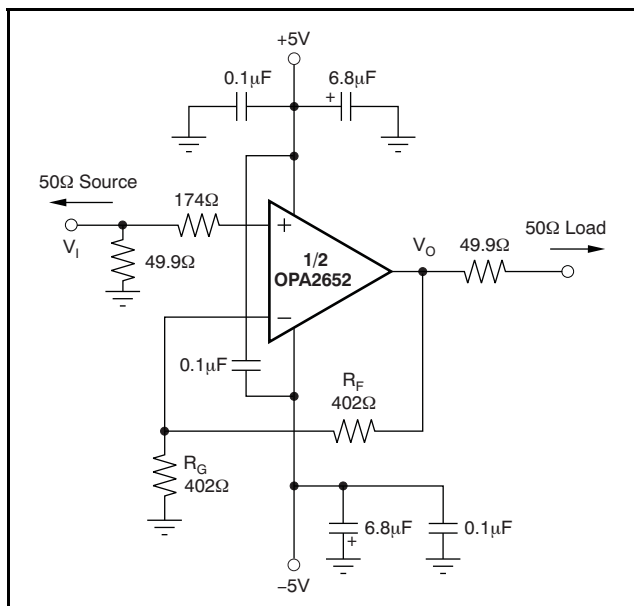
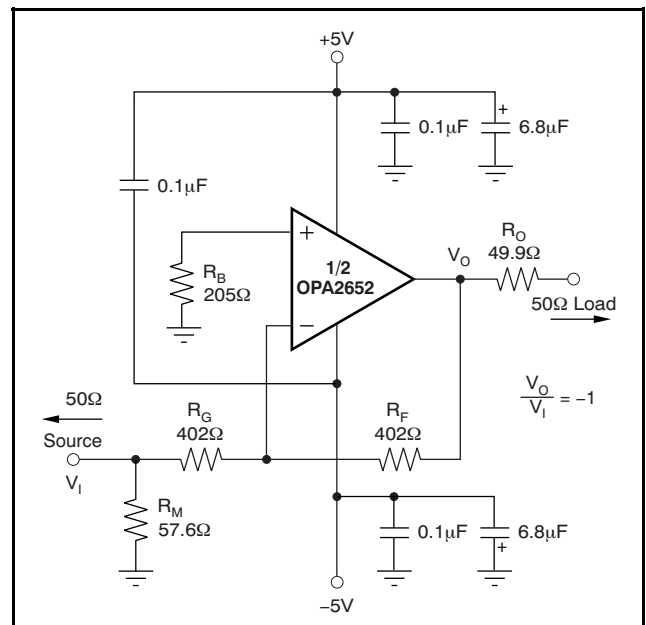

Figure 28. DC-Coupled, $G = +2$, Bipolar Supply, Specification and Test Circuit
Figure 29. DC-Coupled, $G = -1$, Bipolar Supply, Specification and Test Circuit
At $T_A = +25^\circ C$, $G = +2$, $R_F = 402\Omega$, and $R_L = 100\Omega$, unless otherwise noted. See Figure 28 and Figure 29 for AC performance only.
At $T_A = +25^\circ C$, $G = +2$, $R_F = 402\Omega$, and $R_L = 100\Omega$, unless otherwise noted. See Figure 28 and Figure 29.
At $T_A = +25^\circ\text{C}$, $G = +2$, $R_F = 402\Omega$, and $R_L = 100\Omega$, unless otherwise noted. See Figure 28 and Figure 29.
Figure 28 shows the DC-coupled, gain of +2, dual power-supply circuit configuration used as the basis of the $\pm 5\text{V}$ specifications and typical characteristics. This configuration is for one channel. The other channel is connected similarly. For test purposes, the input impedance is set to 50Ω with a resistor to ground and the output impedance is set to 50Ω with a series output resistor.
Voltage swings reported in the specifications are taken directly at the input and output pins, while output powers (dBm) are at the matched 50Ω load. For the circuit of Figure 28, the total effective load will be $100\Omega \parallel 804\Omega$. Two optional components are included in Figure 28.
Figure 29 shows the DC-coupled, gain of -1 , bipolar supply circuit configuration that is the basis of the specifications and typical characteristics at $G = -1$. The input impedance matching resistor (57.6Ω) used for testing gives a 50Ω input load. A resistor (205Ω) connects the noninverting input to ground. This configuration provides the DC source resistance matching to cancel outputs errors arising from input bias current.
A good rule of thumb is to target the parallel combination of R_F and R_G (see Figure 28) to be less than approximately 300Ω. The combined impedance $R_F \parallel R_G$ interacts with the inverting input capacitance, placing an additional pole in the feedback network, and thus a zero in the forward response. Assuming a 2pF total parasitic on the inverting node, holding $R_F \parallel R_G < 300\Omega$ keeps this pole above 250MHz. By itself, this constraint implies that the feedback resistor R_F can increase to several kΩ at high gains. This increase is acceptable as long as the pole formed by R_F and any parasitic capacitance appearing in parallel is kept out of the frequency range of interest.
Voltage feedback op amps exhibit decreasing closed-loop bandwidth as the signal gain is increased. In theory, this relationship is described by the Gain Bandwidth Product (GBP) shown in the specifications. Ideally, dividing GBP by the noninverting signal gain (also called the Noise Gain, or NG) predicts the closed-loop bandwidth. In practice, this prediction only holds true when the phase margin approaches 90°, as it does in high gain configurations. At low gains (increased feedback factor), most amplifiers exhibit a wider bandwidth and lower phase margin. The OPA2652 is compensated to give a flat response in a noninverting gain of 1 (see Figure 28). This configuration results in a typical gain of +1 bandwidth of 700MHz, far exceeding that predicted by dividing the 200MHz GBP by NG = 1. Increasing the gain
Because the OPA2652 is a general-purpose, wideband voltage feedback op amp, all of the familiar op amp application circuits are available to the designer. Inverting operation is one of the more common requirements and offers several performance benefits. Figure 29 shows a typical inverting configuration.
In the inverting configuration, three key design consideration must be noted. First, the gain resistor (R_G) becomes part of the signal channel input impedance. If input impedance matching is desired (which is beneficial whenever the signal is coupled through a cable, twisted pair, long PCB trace or other transmission line conductor), R_G may be set equal to the required termination value and R_F adjusted to give the desired gain. This approach is the simplest, and results in optimum bandwidth and noise performance. However, at low inverting gains, the resulting feedback resistor value can present a significant load to the amplifier output. For an inverting gain of –1, setting R_G to 50Ω for input matching eliminates the need for R_M but requires a 50Ω feedback resistor. This configuration has the interesting advantage that the noise gain becomes equal to 2 for a 50Ω source impedance—the same as the noninverting circuits considered above. However, the amplifier output now sees the 50Ω feedback resistor in parallel with the external load. In general, the feedback resistor should be limited to the 200Ω to 1.5kΩ range. In this case, it is preferable to increase both the R_F and R_G values as shown in Figure 29, and then achieve the input matching impedance with a third resistor (R_M) to ground. The total input impedance becomes the parallel combination of R_G and R_M .
The second major consideration, touched on in the previous paragraph, is that the signal source impedance becomes part of the noise gain equation and influences the bandwidth. For the example in Figure 29, the R_M value combines in parallel with the external 50Ω source impedance, yielding an effective driving impedance of $50\Omega \parallel 57.6\Omega = 26.8\Omega$. This impedance is added in series with R_G for calculating the noise gain (NG). The resulting NG is 1.94 for Figure 29 (an ideal source would cause NG = 2.00).
error, as a result of the input bias currents, is reduced to (Input Offset Current) • R_F . If the 50 Ω source impedance is DC-coupled in Figure 29, the total resistance to ground on the inverting input will be 429 Ω . Combining this in parallel with the feedback resistor gives 208 Ω , which is close to the $R_B = 205\Omega$ used in Figure 29. To reduce the additional high-frequency noise introduced by this resistor, it is sometimes bypassed with a capacitor. As long as $R_B < 300\Omega$, the capacitor is not required since its total noise contribution is much less than that of the op amp input noise voltage.
The OPA2652 provides good distortion performance into a 100 Ω load on $\pm 5V$ supplies. Increasing the load impedance improves distortion directly. Remember that the total load includes the feedback network; in the noninverting configuration (Figure 28), this is sum of $R_F + R_G$, while in the inverting configuration, it is only R_F . Also, providing an additional supply decoupling capacitor (0.1 μF) between the supply pins (for bipolar operation) improves the 2nd-order distortion slightly (3dB to 6dB).
Evaluating these two equations for the OPA2652 circuit and component values shown in Figure 28 gives a total output spot noise voltage of $17\text{nV}/\sqrt{\text{Hz}}$ and a total equivalent input spot noise voltage of $8.4\text{nV}/\sqrt{\text{Hz}}$. This noise includes the noise added by the bias current cancellation resistor (205Ω) on the noninverting input. This total input-referred spot noise voltage is only slightly higher than the $8\text{nV}/\sqrt{\text{Hz}}$ specification for the op amp voltage noise alone. This result will be the case as long as the impedances appearing at each op amp input are limited to the previously recommend maximum value of 300Ω . Keeping both $(R_F \parallel R_G)$ and the noninverting input source impedance less than 300Ω satisfies both noise and frequency response flatness considerations. Since the resistor-induced noise is relatively negligible, additional capacitive decoupling across the bias current cancellation resistor (R_B) for the inverting op amp configuration of Figure 29 is not required.
The balanced input stage of a wideband voltage feedback op amp allows good output DC accuracy in a wide variety of applications. Although the high-speed input stage does require relatively high input bias current (typically $4\mu\text{A}$ out of each input terminal), the close matching between them may be used to significantly reduce the output DC error caused by this current. This reduction is done by matching the DC source resistances appearing at the two inputs. This matching reduces the output DC error resulting from the input bias currents to the offset current times the feedback resistor. Evaluating the configuration of Figure 28, using worst-case $+25^\circ\text{C}$ input offset voltage and current specifications, gives a worst-case output offset voltage equal to:
As an example, compute the maximum T_J using an OPA2652E (SOT23-8 package) in the circuit of Figure 28 operating at the maximum specified ambient temperature of +85°C and with both outputs driving 2.5V_{DC} into a grounded 100Ω load.